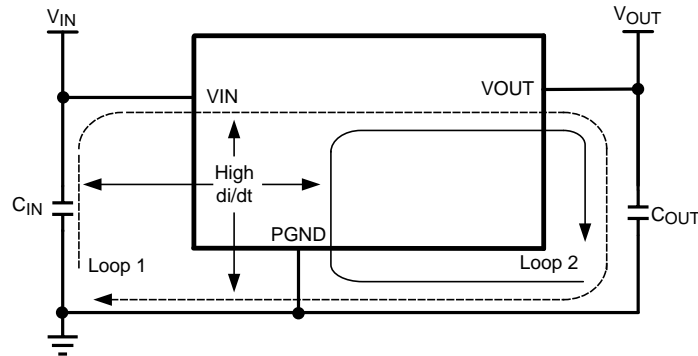

Figure 52. High Current Loops
From an EMI reduction standpoint, it is imperative to minimize the high di/dt paths during PC board layout as shown in Figure 52. The high current loops that do not overlap have high di/dt content that will cause observable high frequency noise on the output pin if the input capacitor (C_{IN}) is placed at a distance away from the LMZ13608. Therefore place C_{IN} as close as possible to the LMZ13608 VIN and PGND exposed pad. This will minimize the high di/dt area and reduce radiated EMI. Additionally, grounding for both the input and output capacitor should consist of a localized top side plane that connects to the PGND exposed pad (EP).